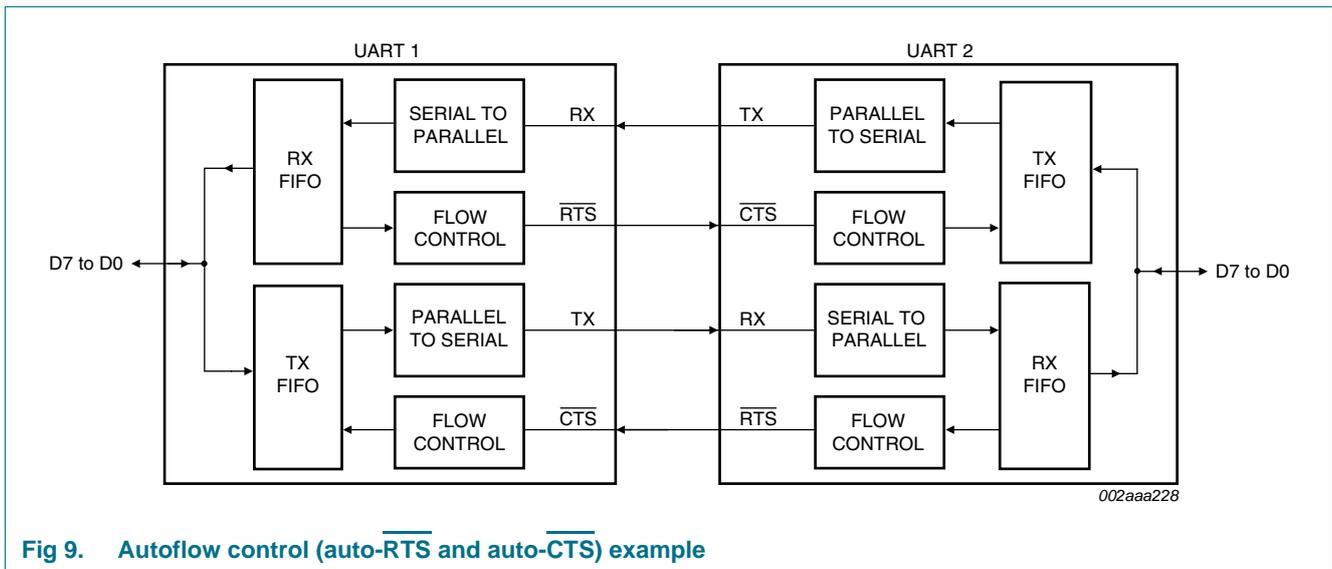

Fig 9. Autoflow control (auto-RTS and auto-CTS) example
6.4 Autoflow control (see Figure 9)
6.4.1 Auto-RTS (see Figure 9)
6.4.2 Auto-CTS (see Figure 9)